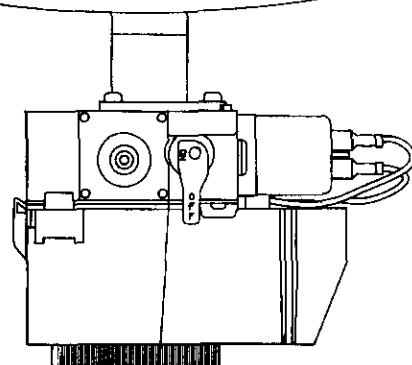
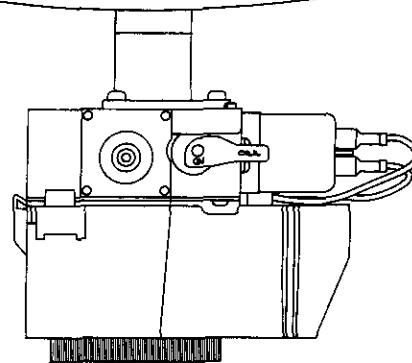

Figure 8
Figure 9
3. Set the thermostat to lowest setting by turning the water temperature dial counter-clockwise, (↷) to its lowest temperature setting. **DO NOT FORCE.** Turn gas control knob clockwise to "OFF" position. (Figure 8, page 26)
4. Wait five (5) minutes to clear out any gas. If you then smell gas, **STOP!** Follow "B" in the safety information above on this label. If you don't smell gas, go to the next step.
5. At arms length away, turn gas control knob counter-clockwise to the full "ON" position. (Figure 9, page 26)
3. Turn gas control knob clockwise (↷) to "OFF" position (Figure 8, page 26).